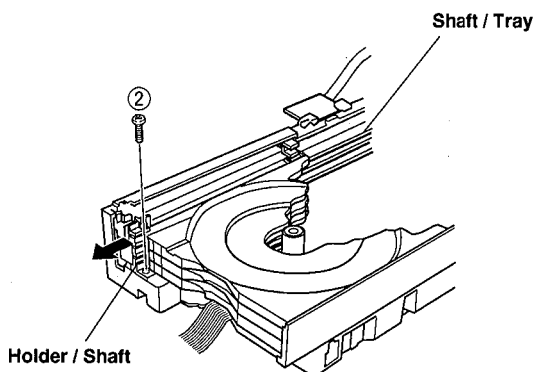

Fig. 3
- Remove 1 screw (②) in Fig. 3.
- Lift the Holder / Shaft a little and remove it forward as shown in Fig. 3.